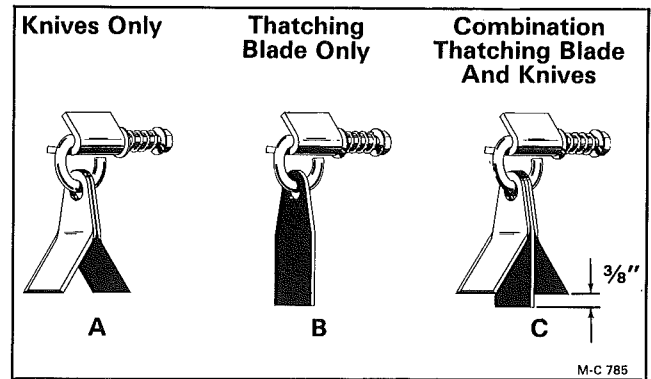

Figure 18
1. Thatching blades can be installed between the two knives on the knife hangers (see "C" in Figure 18) or the knives can be removed and thatching blades alone installed on the hangers (see "B" in Figure 18).